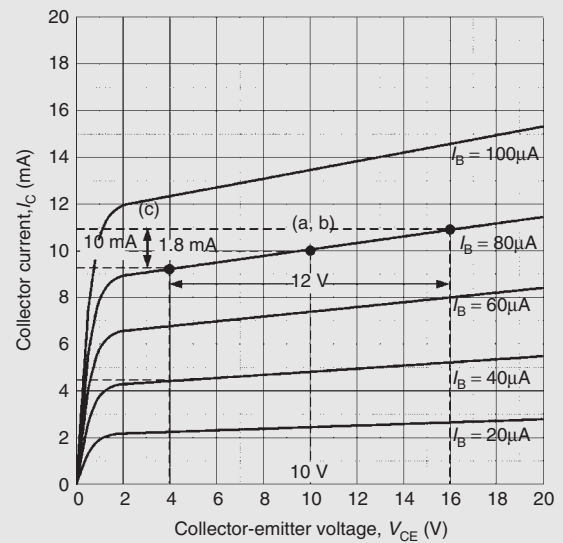

Figure 12.14
**Problem 4.** Figure 12.14 shows the output characteristic for an n-p-n silicon transistor. When the collector-emitter voltage is 10 V and the base current is  $80 \mu\text{A}$ , determine (a) the value of collector current, (b) the static value of output resistance, and (c) the dynamic value of output resistance.
(a) From Fig. 12.14, when  $V_{CE} = 10$  V and  $I_B = 80 \mu\text{A}$ , (i.e. point (a, b) on the graph), the